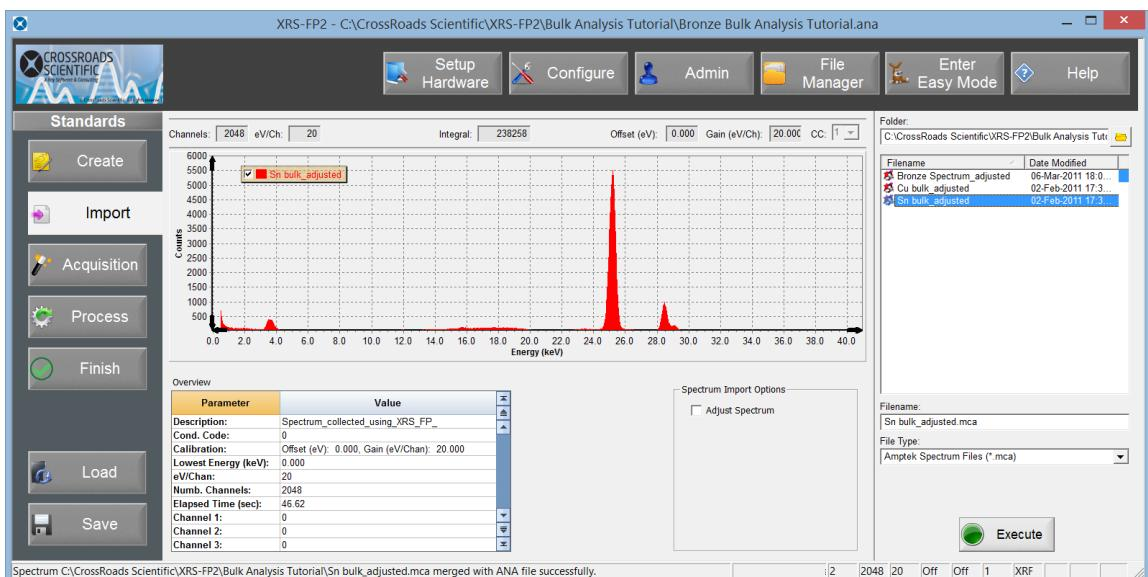

Figure 24. XRS-FP2 Standards Workflow – Import. Import the spectrum for the pure bulk Sn standard.
13. Click on the **Import** button and select the “Sn Bulk_adjusted.mca” file to import for our pure bulk Sn standard spectrum. Click the **Execute** button in the R-hand panel to import the file. See Figure 24 below. Note that you have the option of importing standard spectra or acquiring spectra from standards for calibration. For the later, select the **Acquisition** button in the Standards workflow.